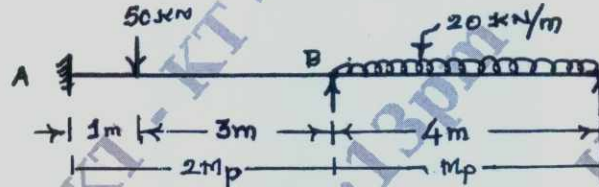

Fig.Q2(b)
- b. Determine the maximum plastic moment for the beam shown in Fig.Q2(b). Take load factor as 1.5. (04 Marks)